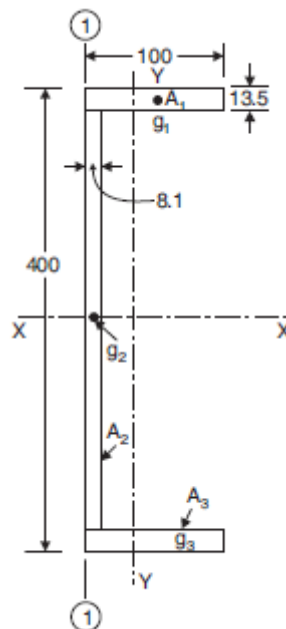

Fig.27
10. Compute the second moment of area of the channel section shown in Fig. 27 about centroidal axis x-x and y-y. [10 M]